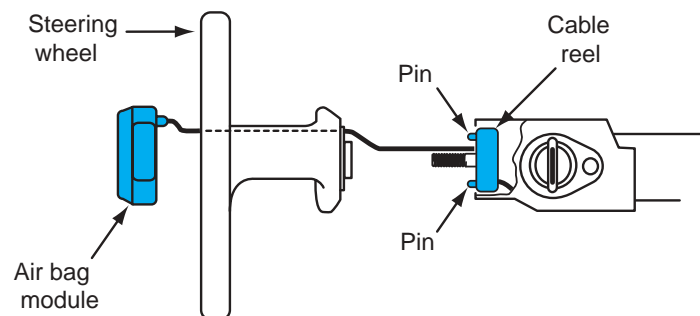

Figure 13-33 Proper alignment of the steering wheel openings and cable reel pins.
7. Install the steering wheel, aligning it with the serration that makes the spoke angle closest to horizontal. Be sure the steering wheel openings fit over the pins on the **cable reel** for the air bag system (Figure 13-33). Do not push down hard on the steering wheel until the serrations and cable reel pins are properly aligned. When the serrations and cable reel pins are properly aligned, push the steering wheel down into place and install the retaining nut.